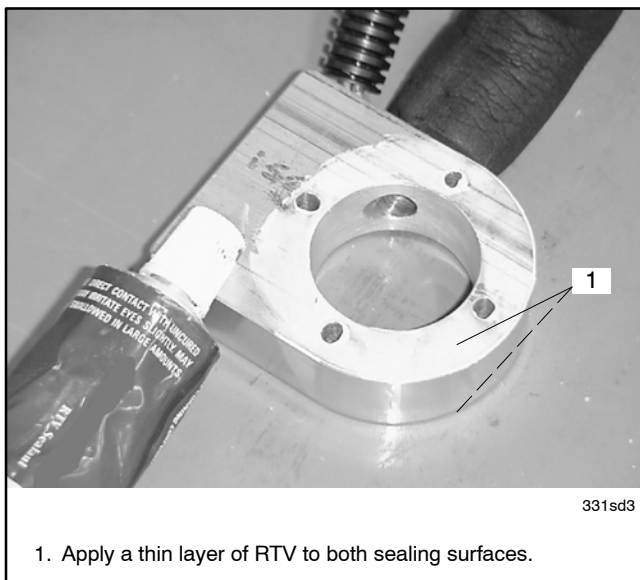

Figure 11 RTV Sealant
- 5.1 Apply a thin layer of RTV to both sealing surfaces of the heater. See Figure 11.